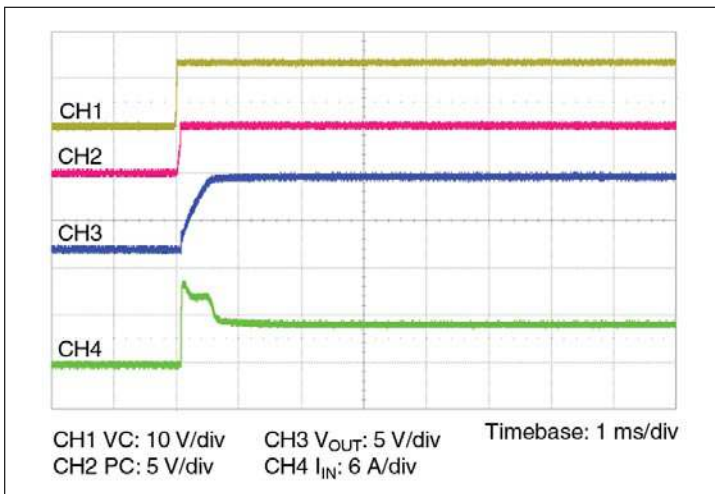

Figure 11 — Start up from application of VC;
- **Stand-alone operation (VC applied after VIN):** In this case the VTM output will begin to rise upon the application of the VC voltage (See Figure 11). The Adaptive Soft Start Circuit (See Section 11) may vary the output rate of rise in order to limit the inrush current to its maximum level. When starting into high capacitance, or a short, the output current will be limited for a maximum of 1200 µsec. After this period, the Adaptive Soft Start Circuit will time out and the VTM module may shut down. No restart will be attempted until VC is re-applied or PC is toggled. The maximum output capacitance is limited to 2300 µF in this mode of operation to ensure a successful start.